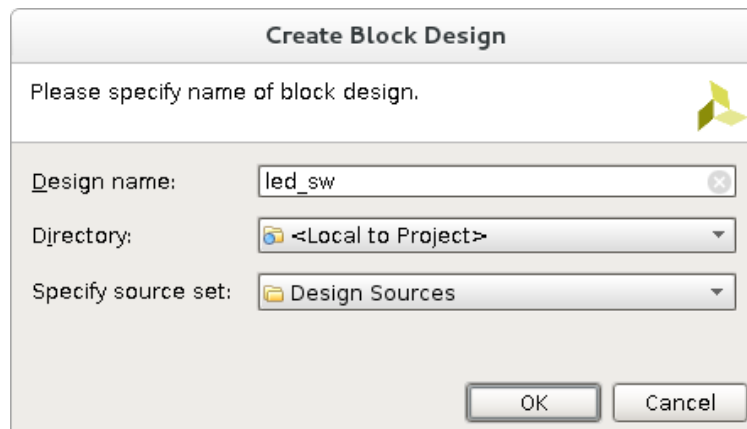

Figure 2: Create Block Design
- (c) On the left side, in the Flow Navigator under the IP Integrator section, click on 'Create Block Design'. A window opens where you can specify the name of your design(eg. led\_sw). Leave the 'Directory' and the 'Specify source set' as they are. Click on the 'OK' button. (Figure 2)